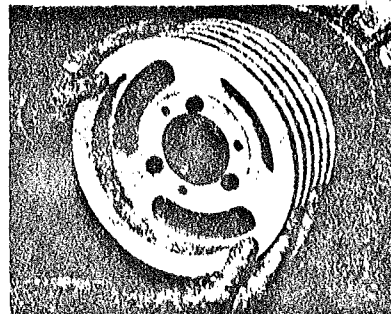

Fig. 3
3. With key in keyseat of shaft, slide assembly to its desired position with cap screw heads to the outside, Fig. 3. (A few small sheaves may have to be installed with the cap screws on the inside.) If the bushing is hard to slide onto the shaft, wedge a screwdriver blade into the saw cut to overcome the tightness.